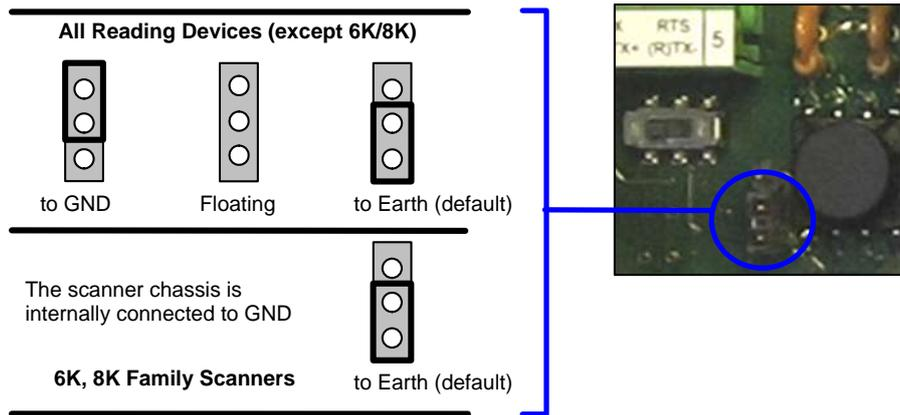

Figure 6 – Chassis Grounding
- *Connect the reading device chassis to earth ground through the jumper, (default setting, see Figure 6).*
The data source chassis grounding method can be selected by positioning a jumper (see Figure 6 ). In this way the reading device chassis can be connected to earth ground (only if pin Earth is connected to a good earth ground). For all reading devices except 6K/8K, the chassis can alternatively be connected to the power supply ground signal (GND) or it can be left floating but, in this case, the jumper must be removed. For 6K or 8K scanners the chassis is internally connected to GND.